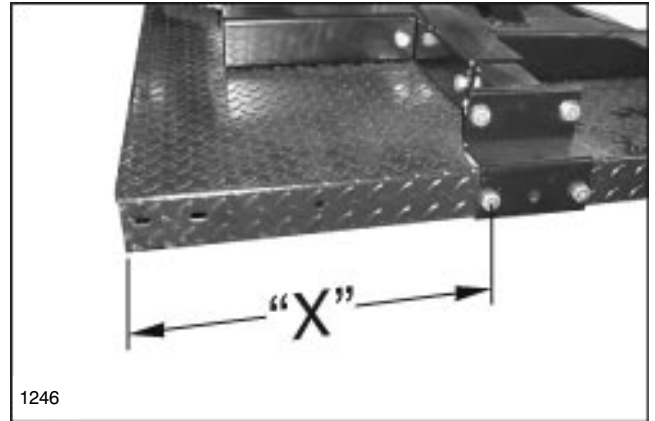

FIG. 2
8. Locate the Saddle Assembly on Cargo Bed, as shown in FIG. 2. Use holes in Mounting Brackets to drill (2) 17/32" diameter holes per Mounting Bracket.